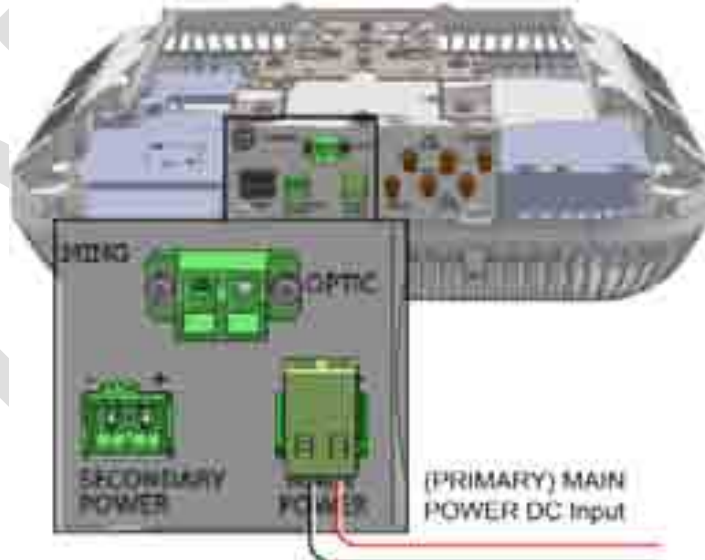

Figure 5-81. RAU MAIN POWER DC Input Connection
9. RAU **MAIN POWER** (for RAU/RAU+RxU) DC input power connections (see Figure 5-81) – connect DC wire pair to the terminal block connector: